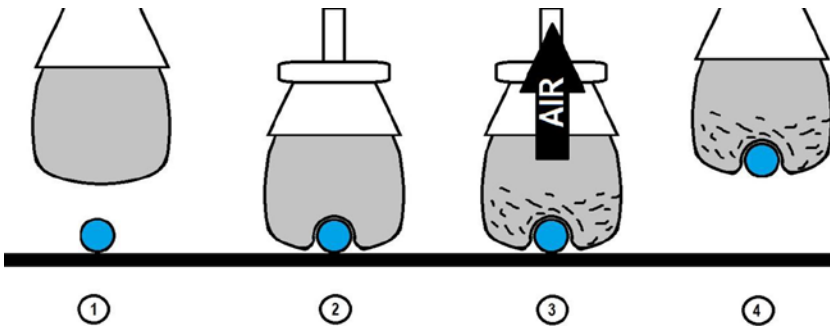

Figure 11-48. How the gripper with ground coffee works
Figure 11-48 shows how the process works. First the gripper approaches the object (1) and then forms over the object (2). The air pump then removes the air, forcing the ground coffee to hold the object (3). Finally, the gripper holds the object (4).